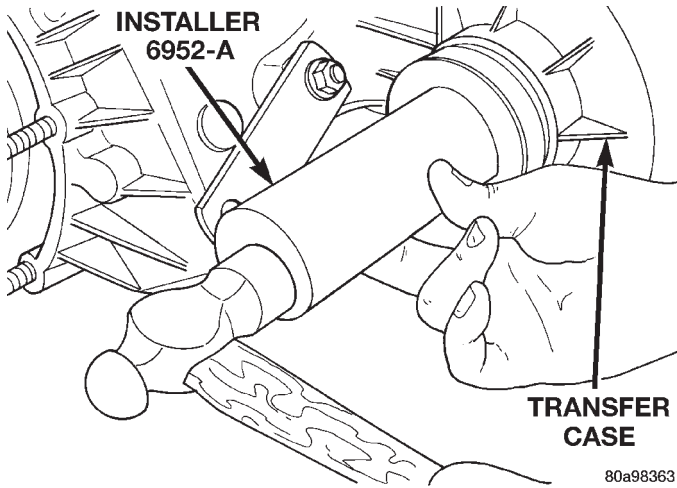

Fig. 6 Front Output Seal Installation
- (1) Install new front output seal in front case with Installer Tool 6952-A as follows:
- (b) Start seal in bore with light taps from hammer (Fig. 6). Once seal is started, continue tapping seal into bore until installer tool seats against case.
- (2) Install companion flange and tighten nut to 122–176 (90–130 ft. lbs.) torque.